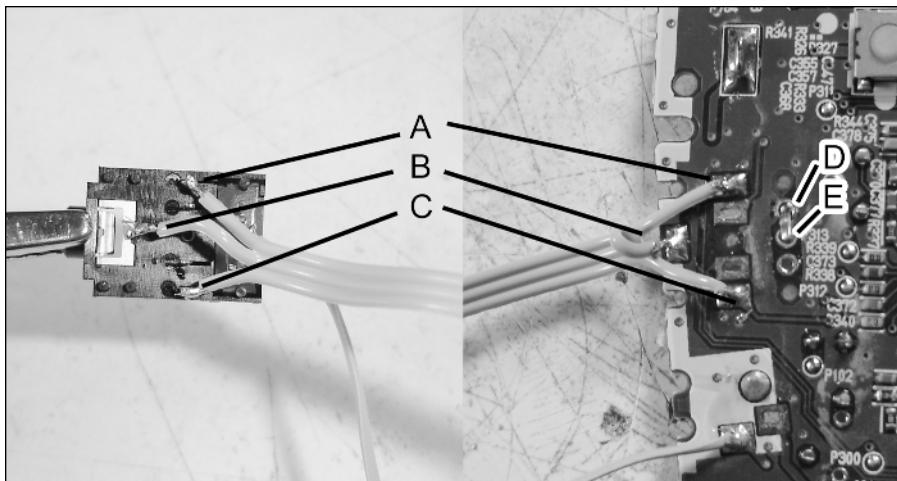

FIGURE 4-13: Connect to the plug and board as shown. (Note how wire B is longer on the plug side.)
2. Next, cut a three-strand of ribbon cable 7" long. Connect it to the audio/video jack and the board, as shown in Figure 4-13. For best results, cut the outer wires a little shorter on the plug side.
3. Place a blob of solder between points D and E in order to connect them, as shown in Figure 4-13. This permanently sets the TV to receive audio/video input.